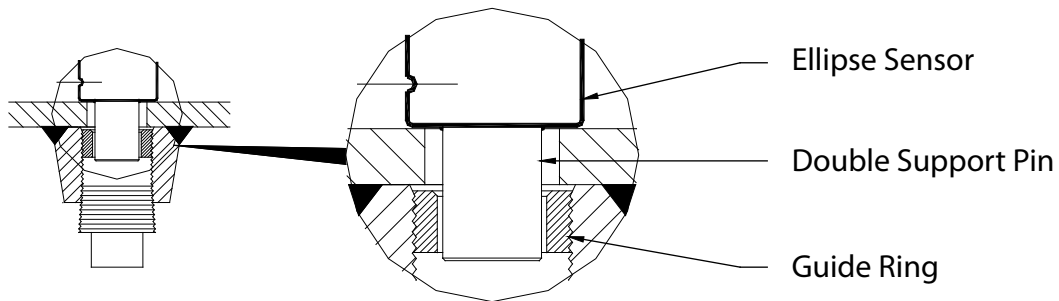

Figure 4: Double support pin
- Install the AHF Ellipse sensor through the two holes. Make sure that the double support pin passes through the guide ring. See Figure 4.